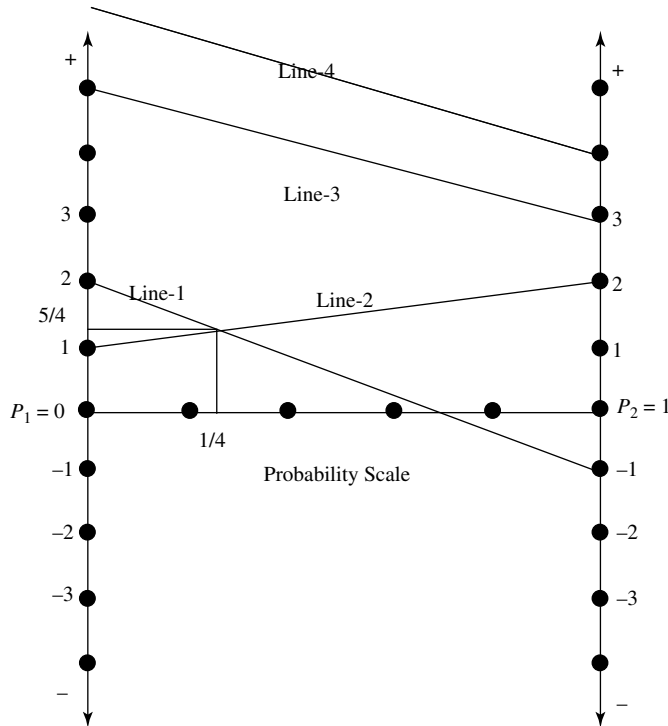

Fig. 9.4
These points can now be plotted to find **maximin** (Figure 9.4).
Note that in Figure 9.4 lines (3) and (4) do not play any role in determining maximum value. Maximin point is the **highest point of lower envelope** (point P).